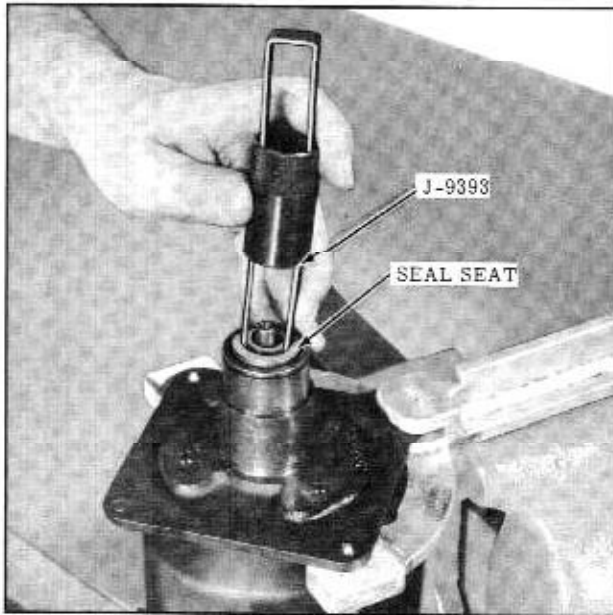

Fig. 14-36 Removing Seal Seat
4. Remove the seal seat with Tool J-9393 as shown in Fig. 14-36.